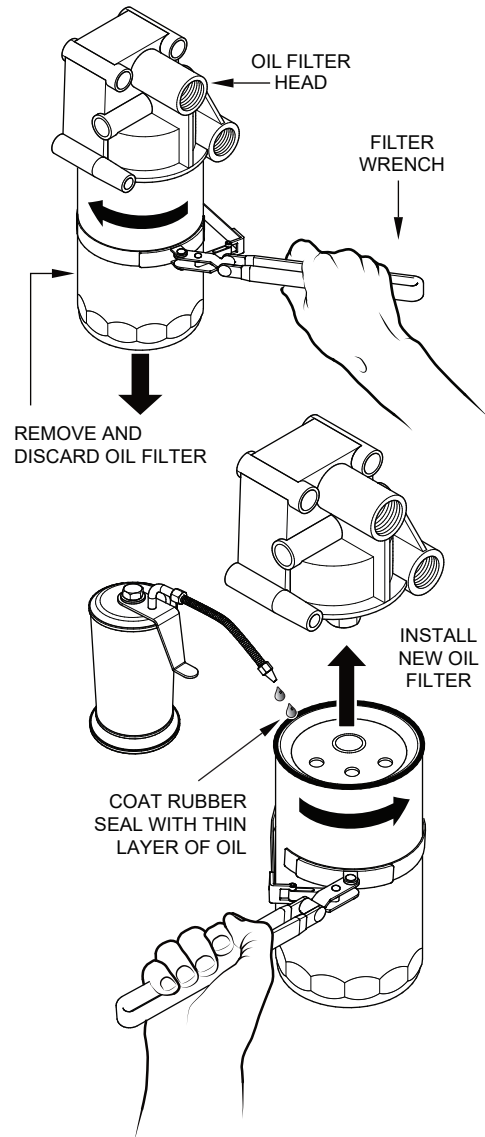

Figure 128. Engine Oil Filter Removal
1. Clean the area around the **oil filter head** (Figure 128).
2. Using an oil filter wrench, remove the **engine oil filter** (Figure 128).
3. Coat the rubber seal (gasket) surface of the new oil filter with clean 15W-40 engine oil (Figure 128).